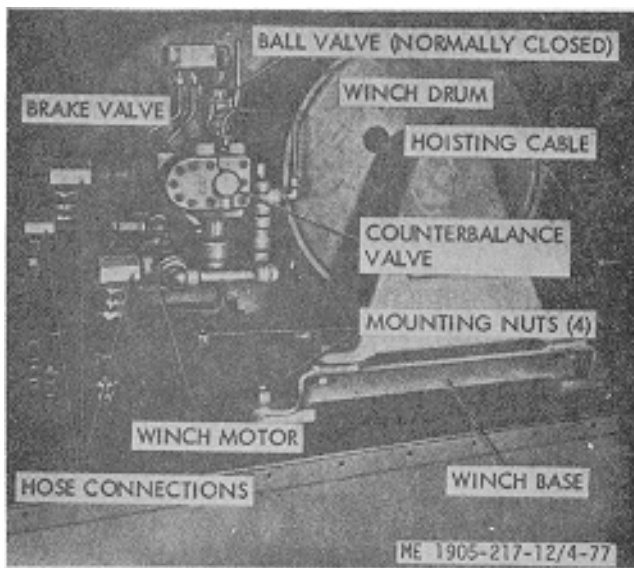
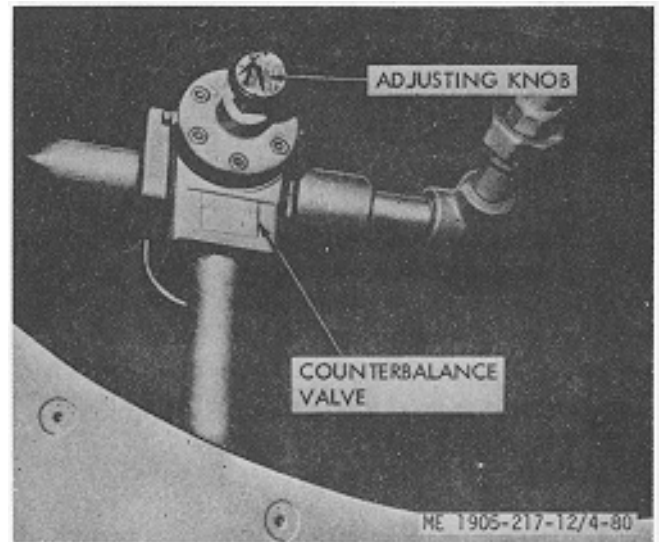

Figure 4-77. Ramp winch, hull numbers 8500 thru 8519.
Figure 4-80. Counterbalance valve, ramp hoist system hull numbers 8520 thru 8560 and 8580 thru 8618.
(2) Disconnect operating lever link (hull numbers 8520 thru 8560 and 8580 thru 8618).
(3) Remove mounting bolts and remove control valve.
**4-90. Winch (Hull Numbers 8500 thru 8519 (fig. 4-77))**
(1) Clean hose connections, disconnect hoses from relief valve, and cap open ends.
(2) Remove relief valve.
*b. Adjustment.* See figure 4-77 for counterbalance valve location. Set counterbalance valve at 300 psi as follows:
(1) Disconnect cable from winch to remove load from system.
(2) Install 3,000 psi pressure gage, with shutoff valve, in system at tee fitting or port in counterbalance valve.
(3) Place control valve in position for lowering pump.
(4) Adjust knob on top of valve until system pressure is 300 psi. A pilot pressure of 800 psi will open the counterbalance valve and allow the ramp to be lowered.
*a. General.* See figure 4-77 for brake valve identification. This is a spool-type, pressure-operated valve which directs hydraulic fluid to the brake release cylinder whenever pressure is applied to either port.
(1) Clean tube connections, disconnect tubes from valve, and cap open ends.
(2) Remove valve from winch.
*b. Adjustment.* See figure 4-80 for counterbalance valve location. Be certain that the relief is set at 2,100 psi by performing the following:
(2) Install 3,000 psi pressure gage, with shut off valve, in system at tee fitting or port in counterbalance valve.
(4) Adjust knob on top of valve until system pressure is 2,100 psi. A pilot pressure of 2,100 psi will open the counterbalance valve and allow the ramp to be lowered.
*c. Removal.* See figure 4-80. The valve is installed in the hull near the winch.
(1) Clean pipe connections, disconnect pipe from valve, and cap open ends.
(2) Remove valve.